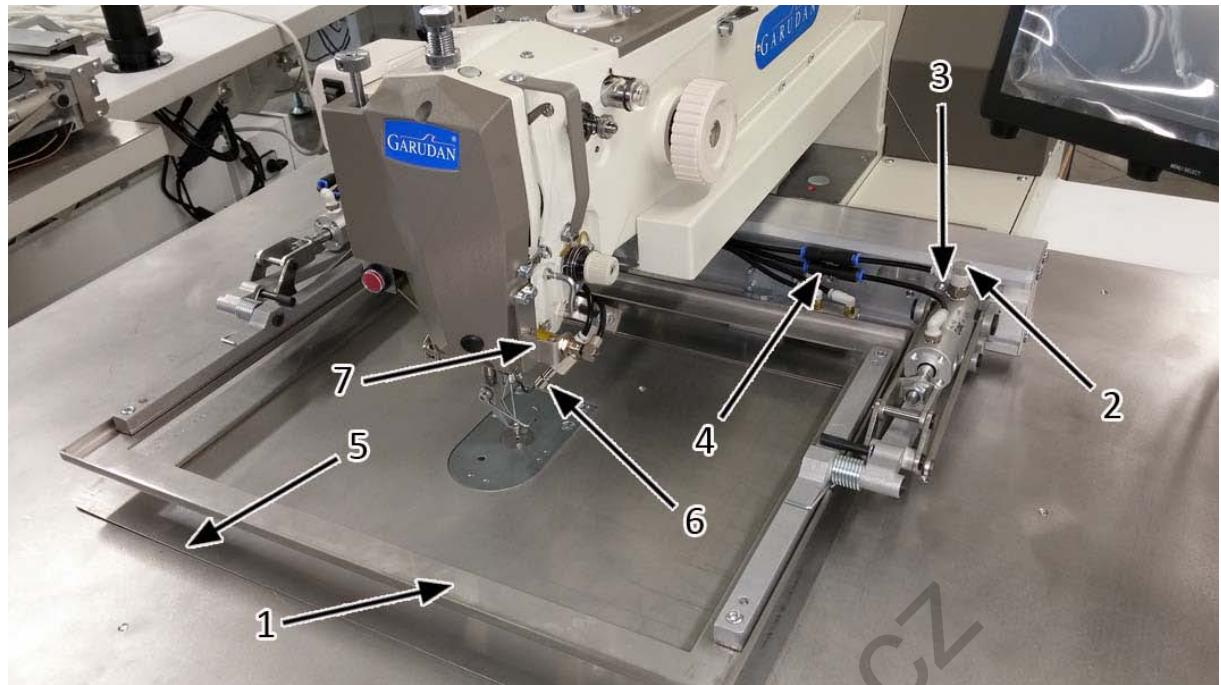

Fig. 45
Fig. 45 shows position of the thread holder (7). This device is activated by *parameter 32*. Default value is 100 for oscillating shuttle hook and 700 for rotary hook.
Fig. 45 shows position of nozzle (6) used for needle cooling. This function is activated by *parameter 31*.